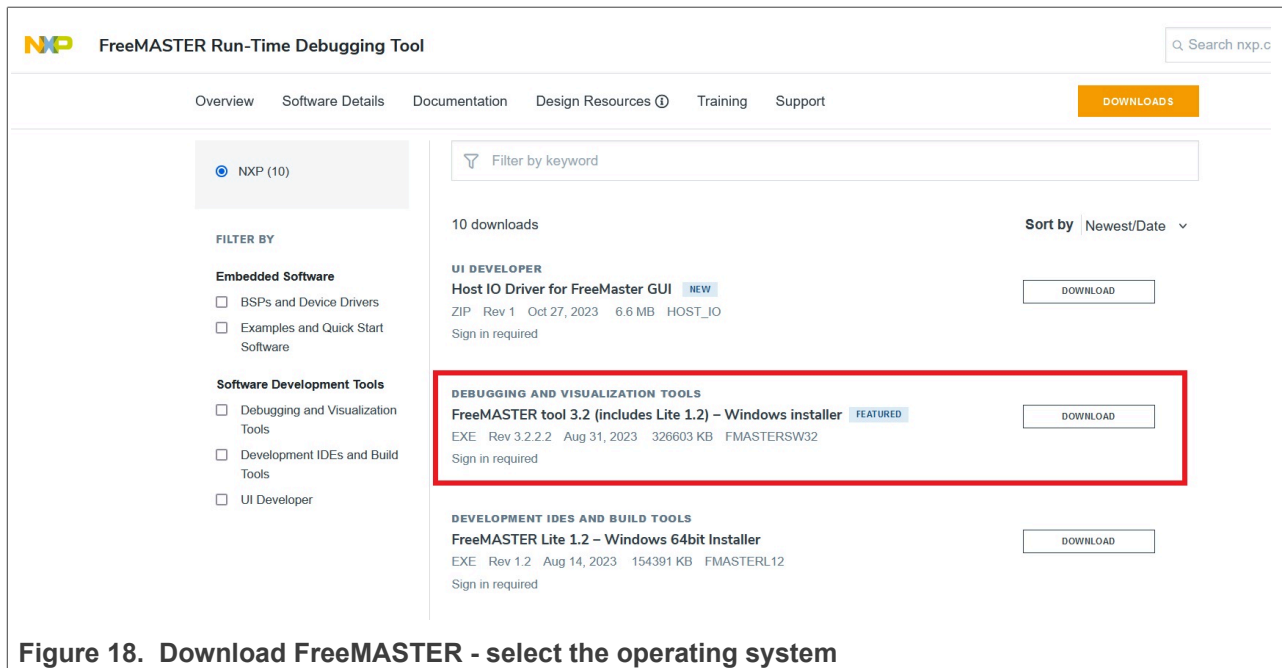

Figure 18. Download FreeMASTER - select the operating system
- Click the *DOWNLOAD* button next to the FreeMASTER version for your operating system as shown in Figure 18. The FreeMASTER Windows version is used in this document. Once you have downloaded the installer, double-click the executable file to start the installation wizard.